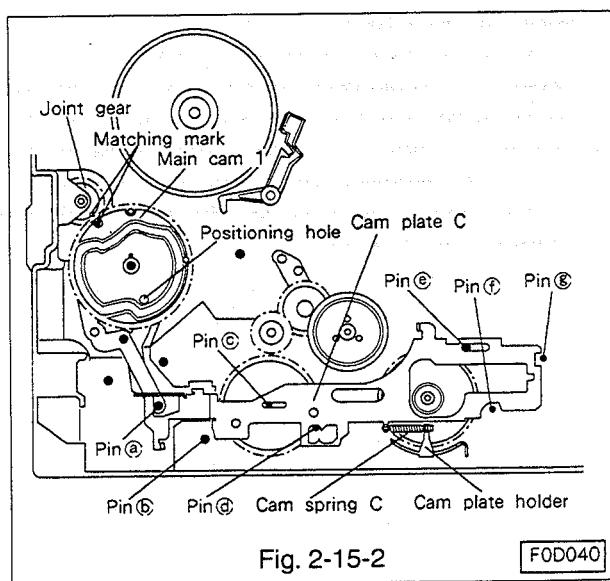

Fig. 2-15-2
- C. Take care not to move the lever RS and lever C, assemble the main cam 1 to the shaft by lining the matching mark of the joint gear with the positioning hole of main plate. Secure the main cam 1 with the grip ring.(Refer to Fig. 2-15-2.)
- D. Assemble the thrust washer to the pin ④ shown in Fig. 2-15-2, and install the cam plate C so that the corresponding positions of the plate match the pins( ① ~ ⑨ ).
- E. Fasten cam spring C to cam plate C and the cam plate holder.(Refer to Fig. 2-15-2.)